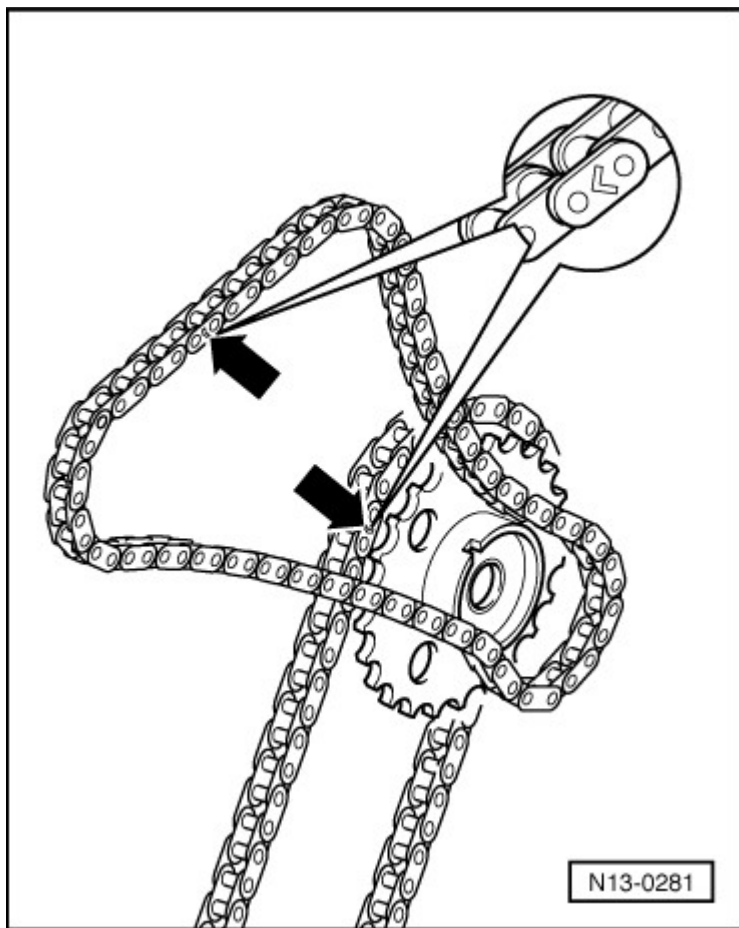

Fig. 12: Identifying Marks On Roller Chains
- For the camshaft timing chain -item 10-.
- For the tensioning rail -item 7-.
- Mark the direction of rotation before removing (installed position). Refer to **Fig. 12**.
- For the oil pump timing chain -item 19-.
- For the guide rail -item 23-.